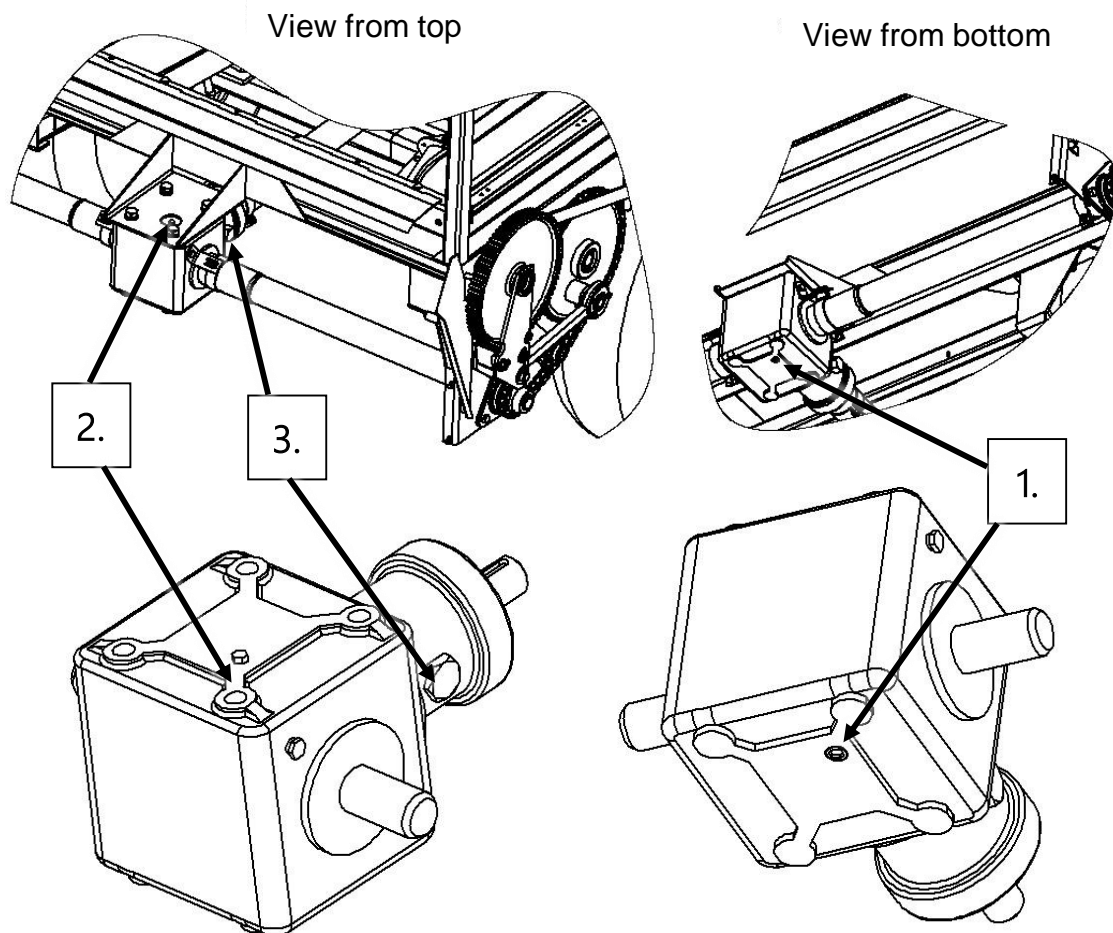

Figure 22. Gearbox
- The drain plug (item 1, fig. 22) found at the bottom of the body serves to remove oil. Oil from the transmission box is to be removed immediately after the machine's operation, when the oil is hot, into the container intended for this purpose.
- The vent hole (item 2, fig. 22) situated at the top of the body serves for filling of the transmission box with oil.
- The proper oil level can be assessed when the spreader is in horizontal position by means of the oil level indicator window (item 3, fig. 22), which is found in the mount of bearings.